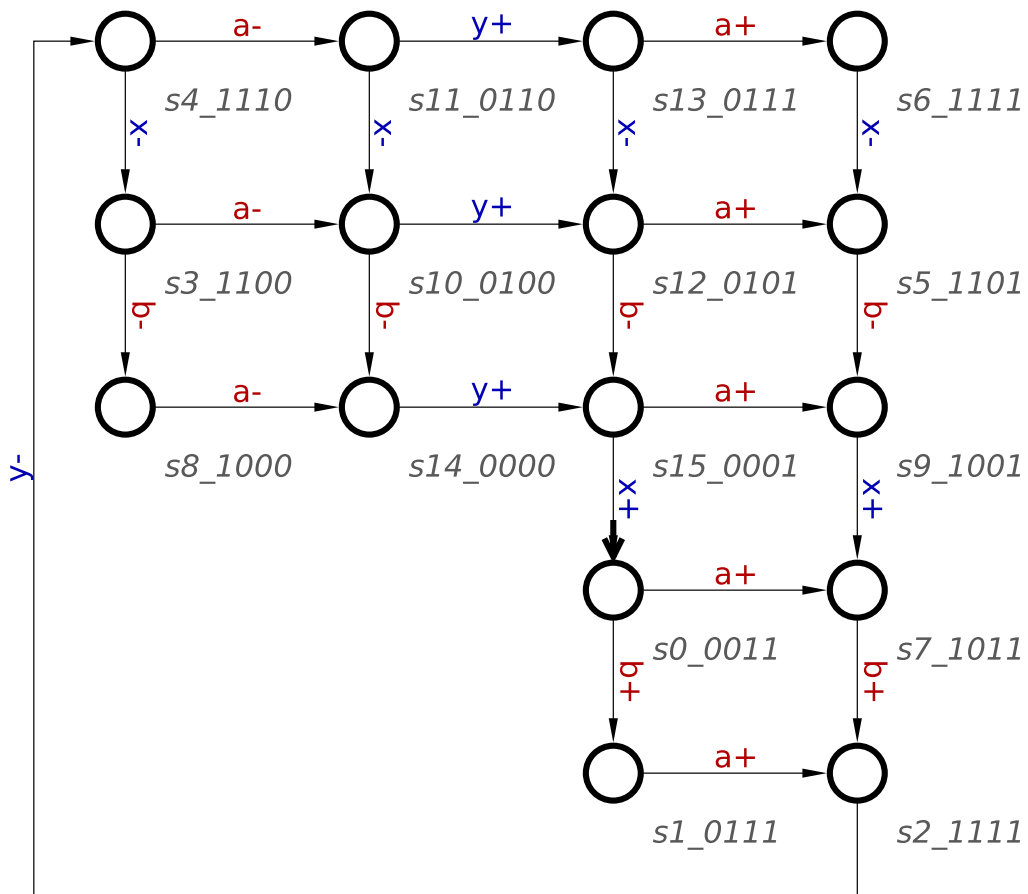

Figure 9: State Graph
- ii) Identify and mark all CSC conflicts in the state graph (use Figure 9).